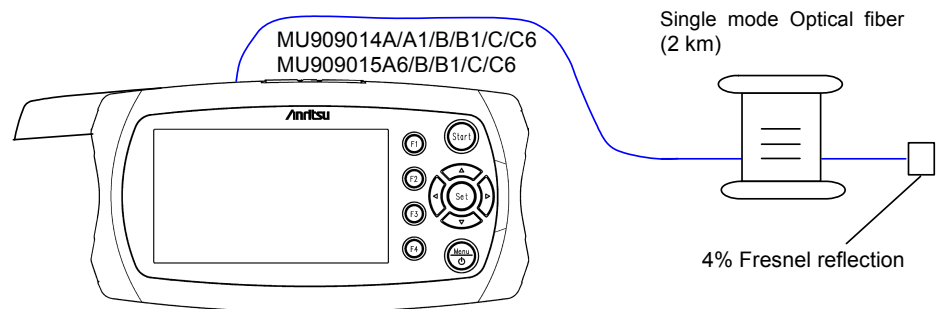

Figure 11.1.5-1 Distance Measurement Accuracy Test - Connection Diagram
1. Connect the modules as shown in Figure 11.1.5-1.